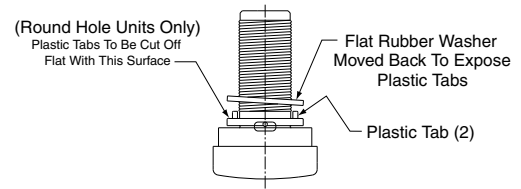

FIGURE 4
2. Cut plastic tabs off rear of soap valve face flush with indicated surface (See Figure 4).